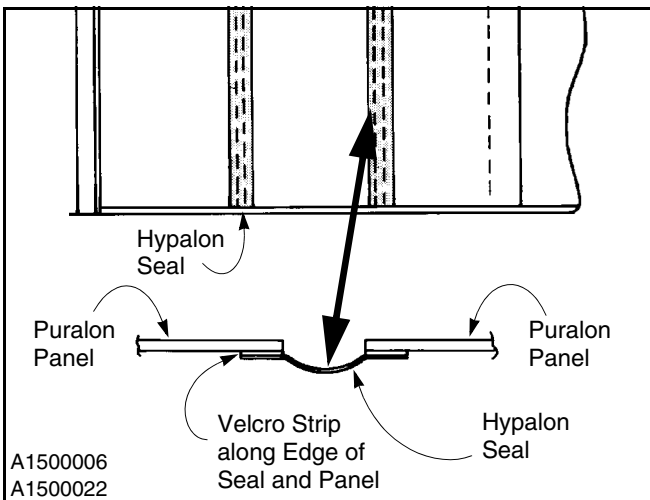

Figure 66
4. Attach a center seal to the edge of each adjoining panel using the Velcro[®] strips provided on the seal and panels. When attaching a center seal, start at the bottom and work your way toward the top. (See Figure 66.)